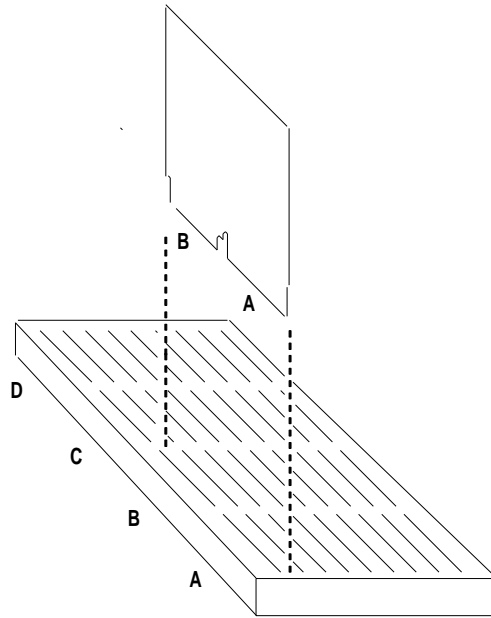

Figure 1-3: Installing the DCQ-2500 into an LSI-11 / MicroVAX II System
- 3) Insert the module into the slot as shown in Figure 1-3. Take care to ensure that the connectors are clear of any adjacent modules. Allow adequate room to connect and route the interconnect cables.